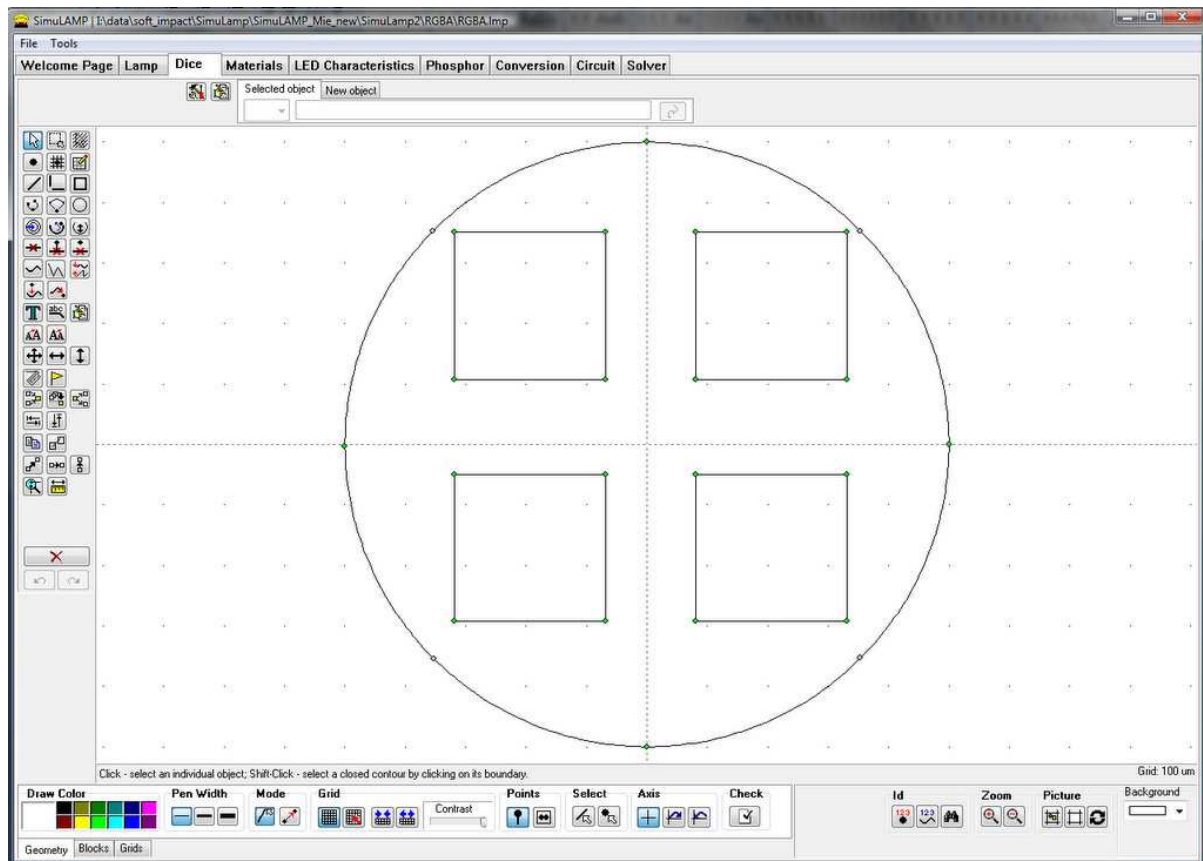

Fig. 9
Using **Geometry** tab (see Fig.9) one should specify LED contours inside the submount perimeter. In case of single LED lamp with a rectangular LED die matching the submount, the whole geometry to be specified within **Dice** should only include two objects: a rectangle inscribed in a circle. In actual 3D geometry, both submount and LED are quadrilateral, but due to axisymmetric specification of the lamp bulk objects and planar specification of the heterostructure, they have different shape in the top view. The submount is approximated by a cylinder whose top view is a circle, while LED is a rectangle. In case of a multi LED lamp, several LED contours should be placed inside the submount circle.
- The LED contours. **Fig.9** presents three rectangular LED contours uniformly placed on the submount. The radial lines that split the rest of the submount area are only used in grid generation.